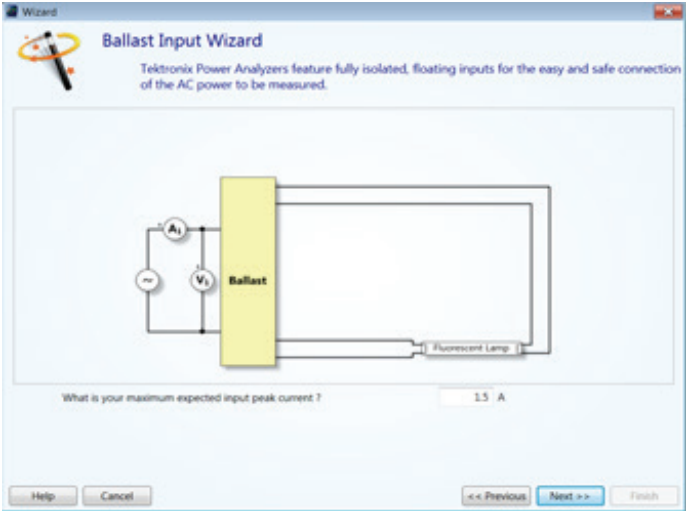

Figure 5. Ballast Setting Wizard Window.
- Enter the anticipated peak input current and click on Next as shown in Figure 5. The following screen will show you how to make connections between the ballast input and the power analyzer. These connections are simplified by the use of the Breakout Box,
- Click on the start button to begin the measurement. The requested unit configuration will be sent to the PA1000. Once the PA1000 has been configured, the measurement grid will start to update at approximately twice per second. as shown in Figure 5.